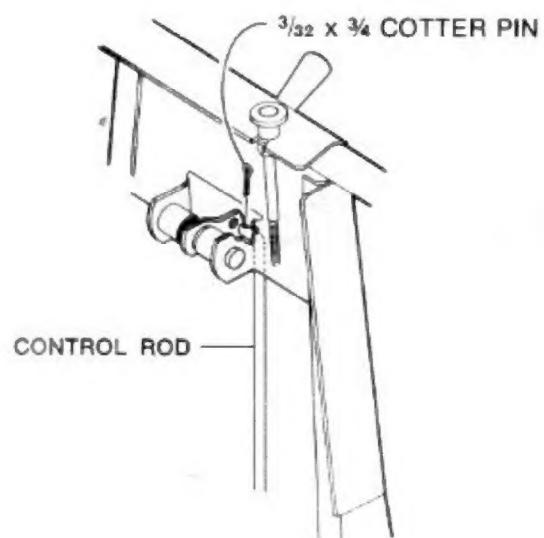

FIG. 9
C. Insert the hooked end of control rod through the hole provided in the control lever on the back-side of handle, Fig. 9, and secure in place with a $3/32 \times 3/4$ cotter pin*.